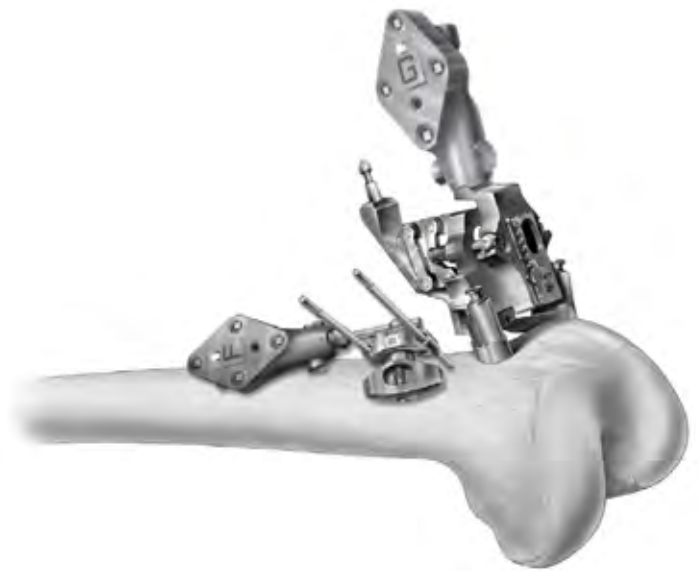

Figure 27
Press button on Adjustable Module and attach to Femoral Base. Release button and verify Adjustable Module is securely locked onto the base. Attach the Guide Tracker (G) on the Adjustable Module so that it faces camera when the Femoral Base is on the distal femur. Follow the on-screen guidance to place the Femoral Base & Module and secure with pins once an appropriate location is achieved (*Figure 27*).